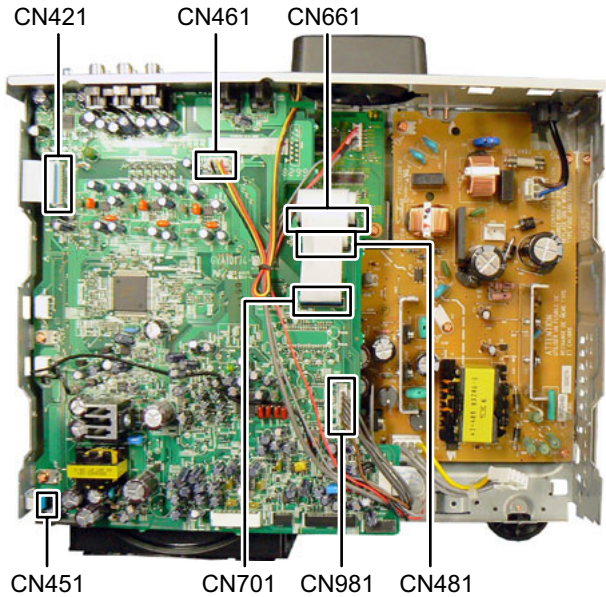

Fig.12
### 3.1.5 Removing the Main board (See Fig.12, 13)
- (1) Disconnect the connector wire from FAN connected to connector **CN461** of the Main board. (See Fig.12)
- (2) Disconnect the connector wire from Power supply unit connected to connector **CN981** of the Main board. (See Fig.12)
- (3) Disconnect the card wires from DVD module board connected to connectors, **CN481**, **CN661** and **CN701** of the Main board. (See Fig.12)
- (4) Disconnect the card wire from Tuner pack connected to connector **CN421** of the Main board. (see Fig.12)
- (5) Disconnect the card wire from Loader board connected to connector **CN451** of the Main board. (See Fig.12)
**3.2.3 Removing the feed motor assembly (See Fig.12)**